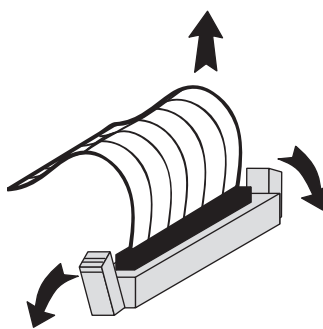

Figure 18.14 Releasing the Ribbon Cable
4. Release the **Ribbon Cable** from the **Ribbon Cable Connector** by pressing down and out on the **Ejector Tabs** at either end of the **Ribbon Cable Connector** (**Figure 18.14**).